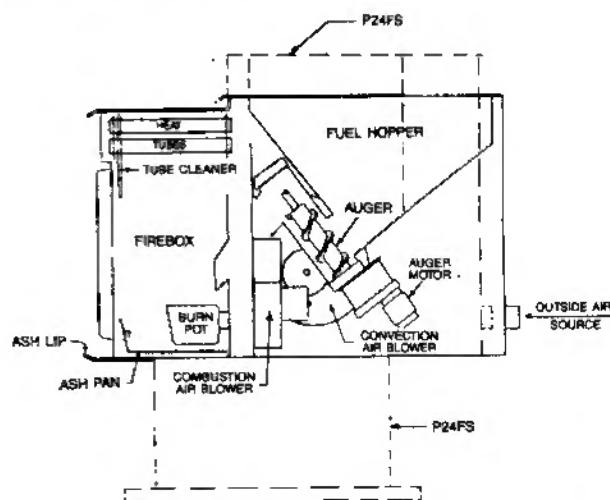

FIGURE 12
4.1 Ash Disposal - (see figure 12)